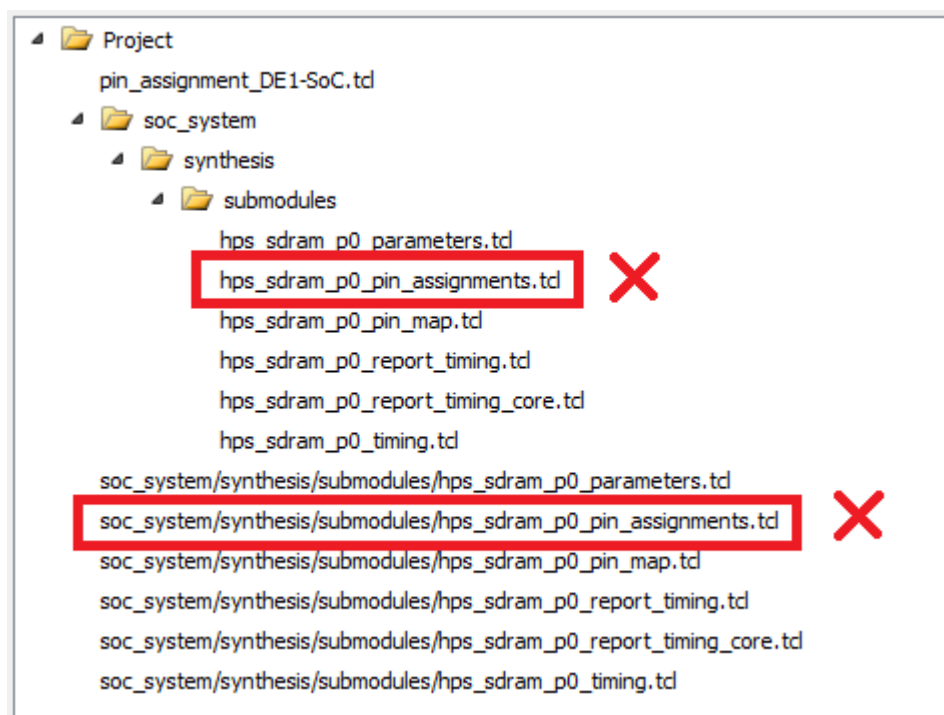
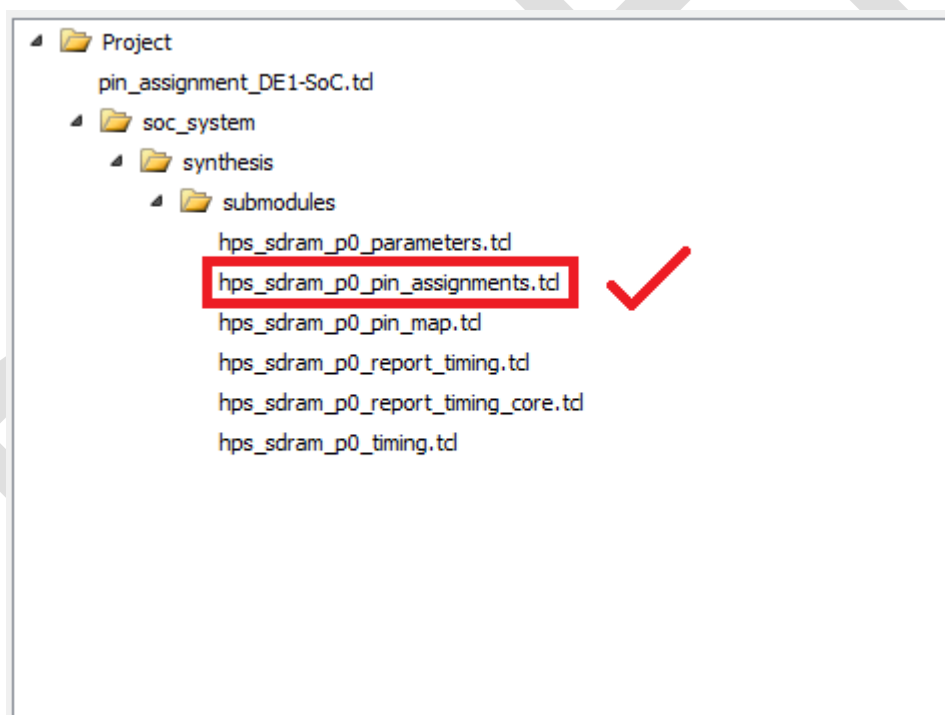

Figure 7-12. HPS DDR3 Pin Assignment TCL Script Selection Bug
Figure 7-13. Correct HPS DDR3 Pin Assignment TCL Script Selection
**IF AT THIS POINT YOU SEE THE SAME THING AS ON Figure 7-12 IN QUARTUS II, THEN CLOSE AND RELAUNCH QUARTUS II AGAIN. SOME VERSIONS OF QUARTUS II SUFFER FROM A BUG, WHERE THE PROGRAM DOESN'T CORRECTLY DETECT TCL FILES GENERATED BY QSYS. YOU SHOULD SEE THE SAME THING AS ON Figure 7-13.**